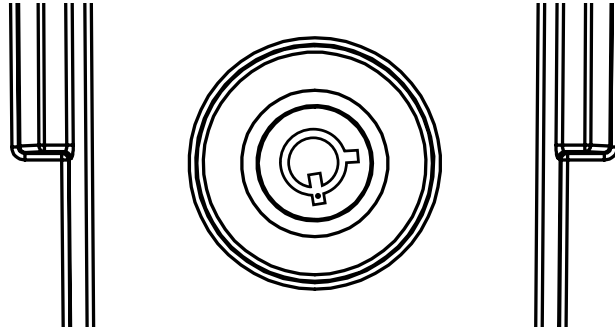

Figure 1
1. Ensure the lock on the back of the tablet holder is in the unlocked position. Key pull slot is oriented down. (*figure 1*)